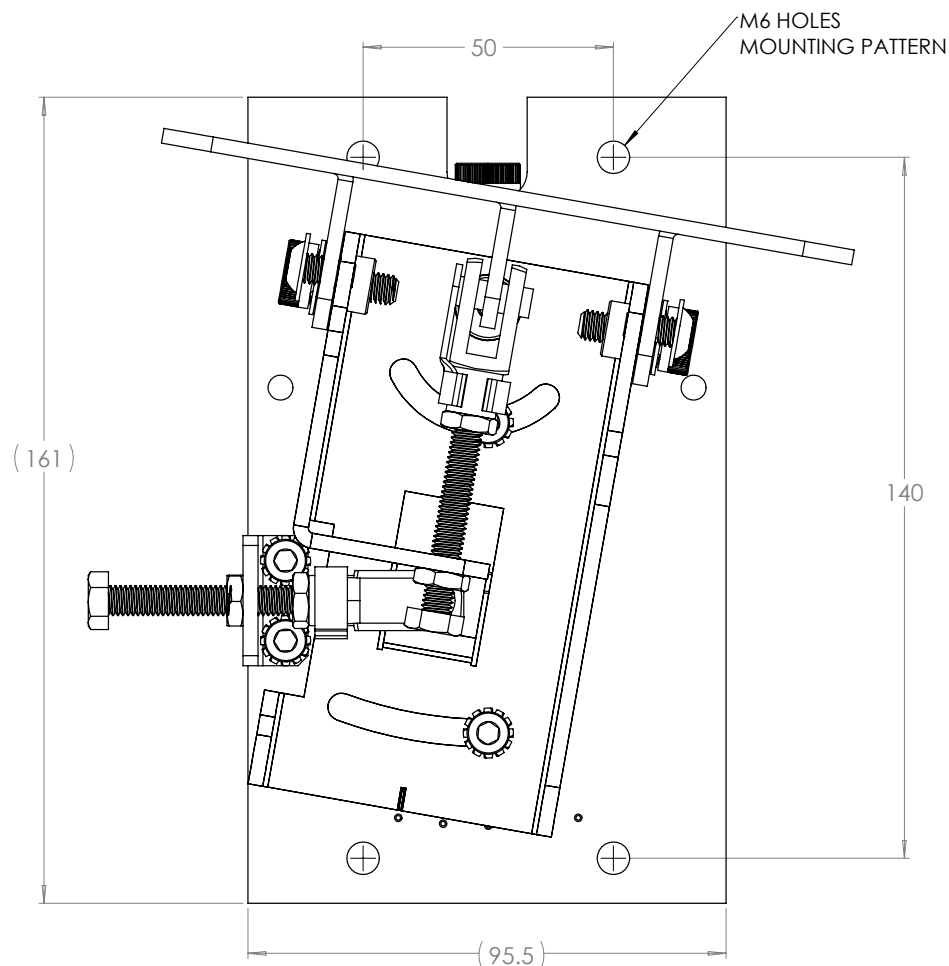

Figure 56. Adjustable Mount's Back Plate
- Mark and drill holes where needed, as indicated by the mounting holes in the back plate and dimensions in Figure 56.